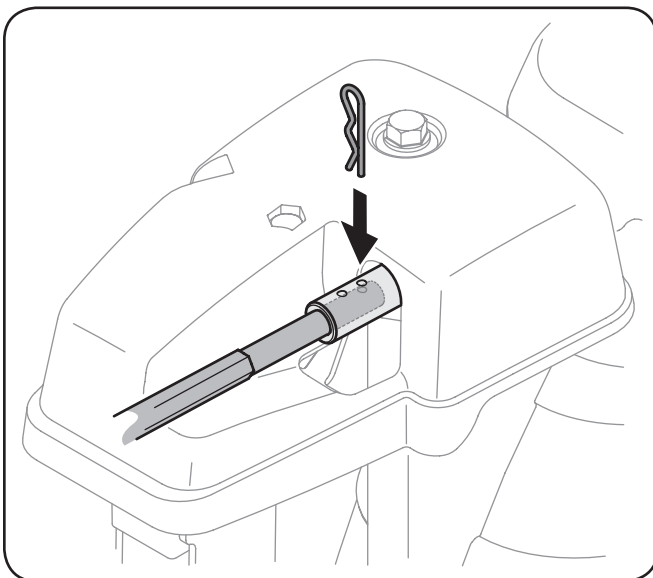

Figure 3-9
7. Push the hex rod toward the control panel until the hole in the hex rod lines up with the hole in the chute control input closest to the chute control head and insert the cotter pin. See Fig. 3-9.